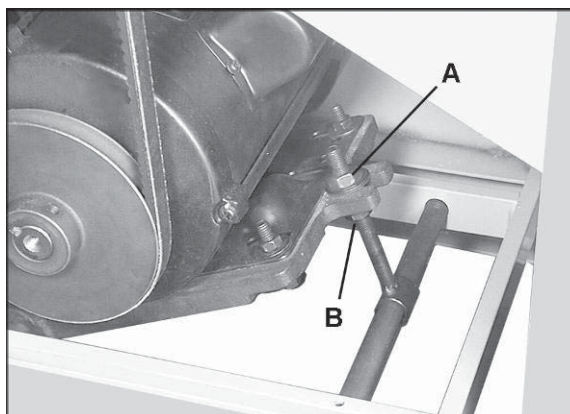

Figure 13
4. To increase the tension on the drive belt, loosen the lower hex nut (B, Figure 13) with a 17mm wrench, and tighten the top hex nut (A, Figure 13). When finished, tighten lower hex nut (B, Figure 13).
3. On the motor base plate, loosen the top hex nut (A, Figure 13), and lift up on the motor to create slack in the drive belt. Remove the drive belt from both pulleys.